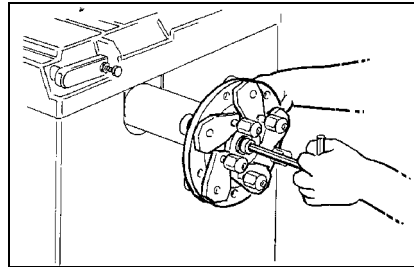

fig.10
- Fig. 10 shows the **universal flange** fixing system